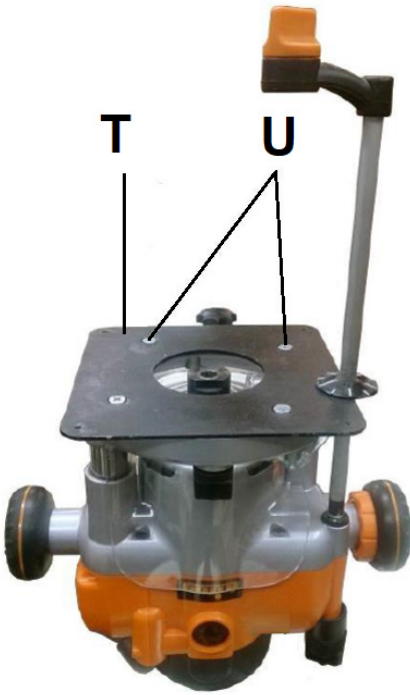
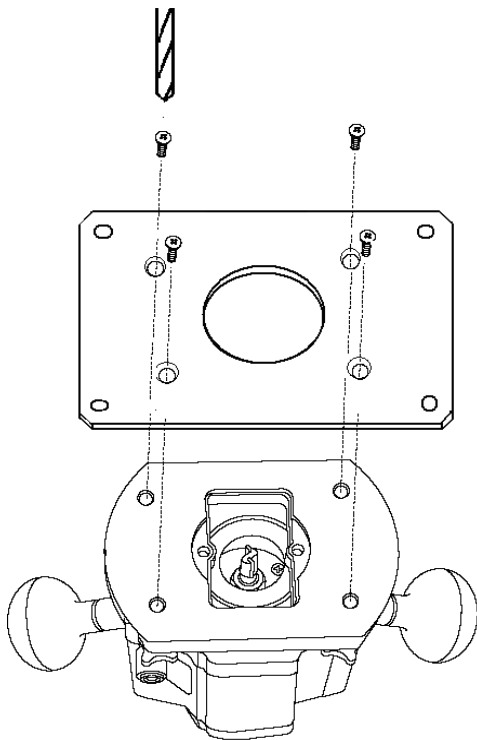

Fig 5
Fig 6
Attach the Router (Fig 5, Fig 6):
Attach the router to the mounting plate (T, Fig 5) by use of supplied screws (U).
Holes may need to be drilled according to your router's hole pattern (Fig 6).